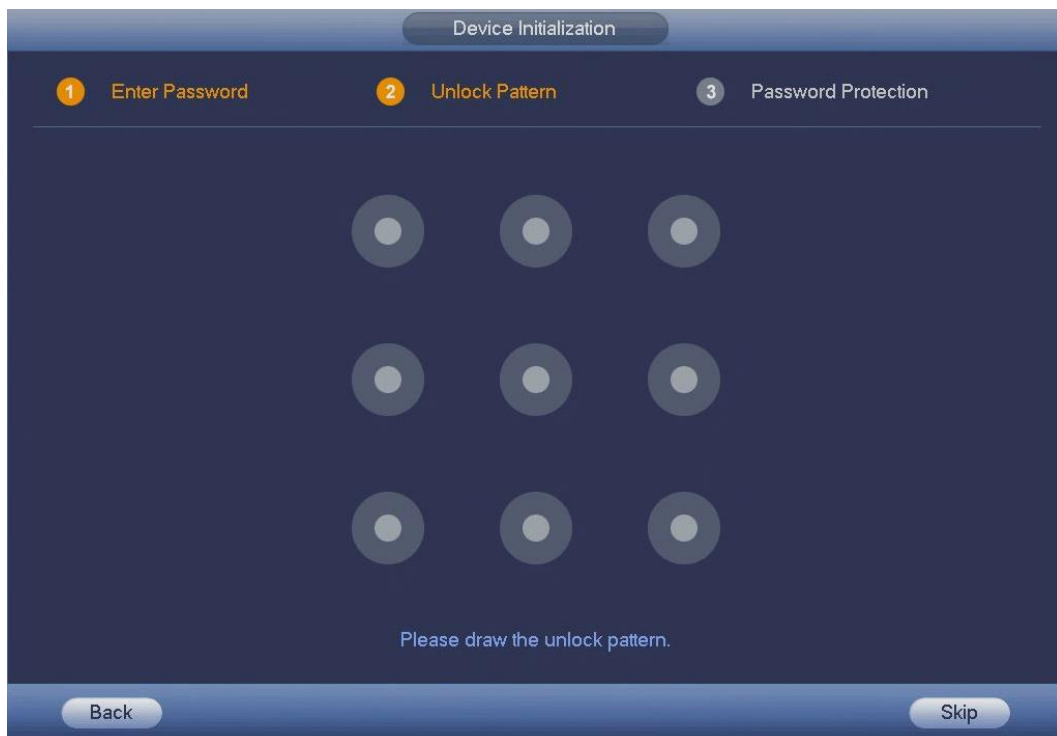

Figure 2-2
3. Click Next. Device goes to Unlock Pattern interface. See Figure 2-2.